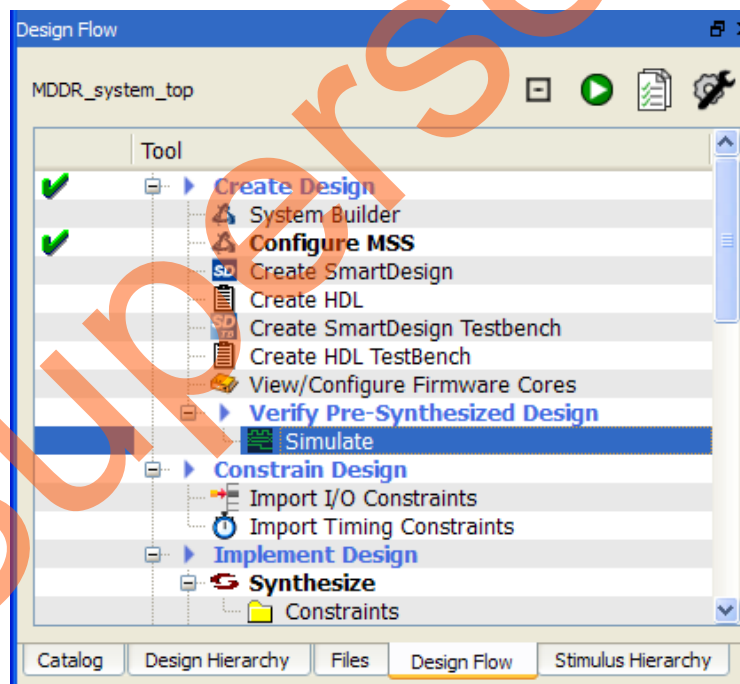

Figure 36. Starting Pre-Synthesis Simulation
4. Expand **Verify Pre-Synthesized Design** in the Design Flow window, as shown in Figure 36. Double-click **Simulate** to launch ModelSim in GUI mode.